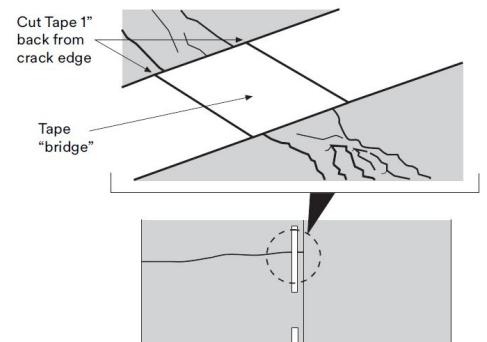

Figure 1. Cutting Tape Applied Over Cracks and Expansion Joints
9. Cut Tape 1 in. (2.5 cm) away from both sides of any cracks or joints to help prevent adhesion issues on cracked pavement surfaces and bridge expansion joints. See Figure 1.